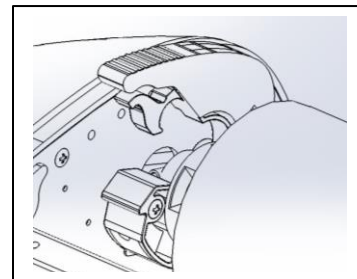

Figure 9
- N. **FILM SADDLES:** EZLoad film supply is loaded into the saddles on the Pinnacle 27EZload (figure 9).